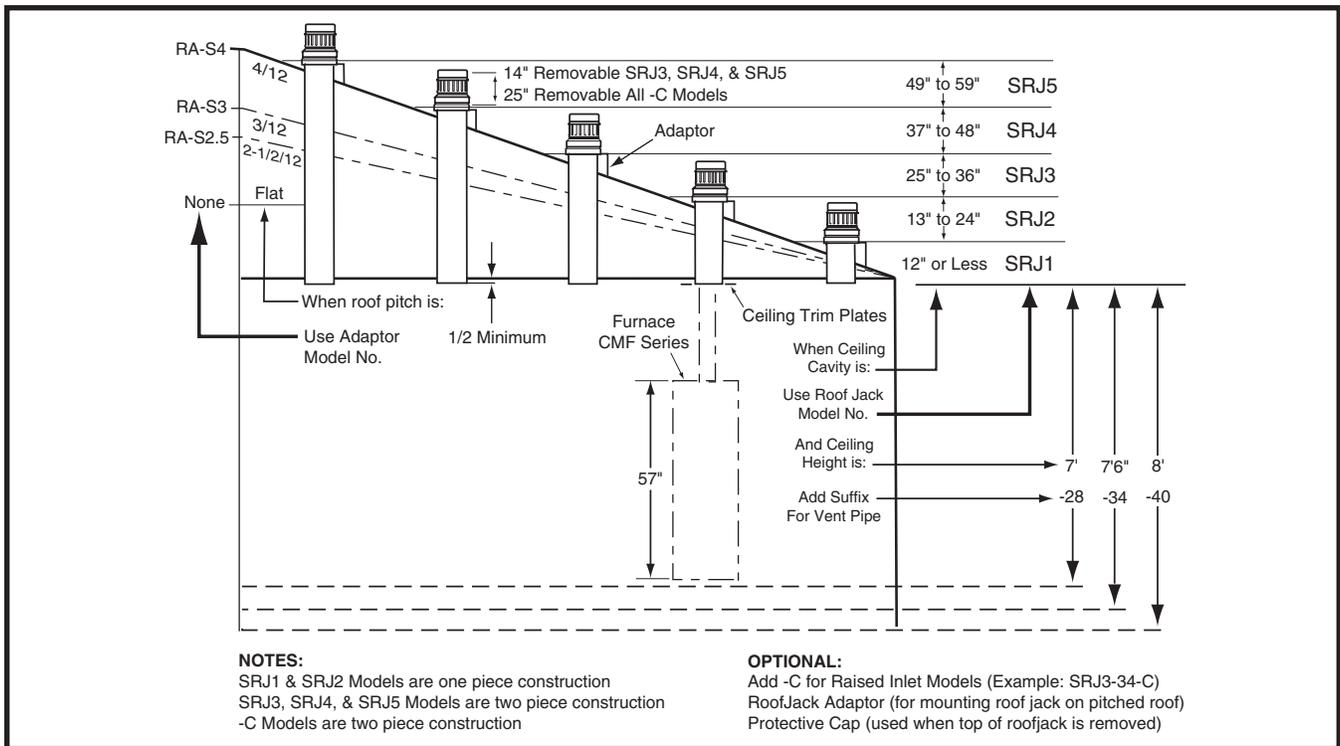

Figure 9. Selection of Roof Jack & Accessories Chart
Required ceiling and roof cut-out openings must be accurately located to prevent hazardous misalignment of the furnace and roof jack. Figure 8 displays a typical installation for manufactured housing applications. Refer to Figure 9 \(page 14\) to determine appropriate SRJ roof jack and accessories required for your installation. Install only SRJ series roof jack as specified on the furnace label. **NOTE:** A roof jack adaptor is required for sloped roofs.
- The roof jack and vent pipe as determined from the chart in Figure 9 must be applied.